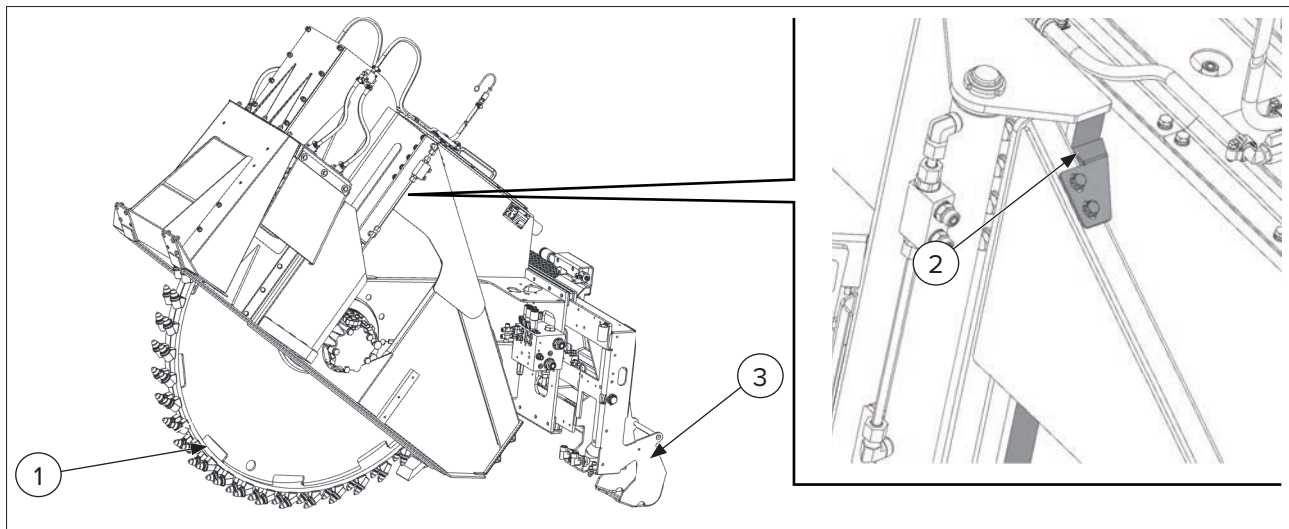

Figure 6
1. Adjust the depth of the cutting wheel [Figure 6, Item 1] by bringing the excavation depth indicator [Item 2] to maximum height.